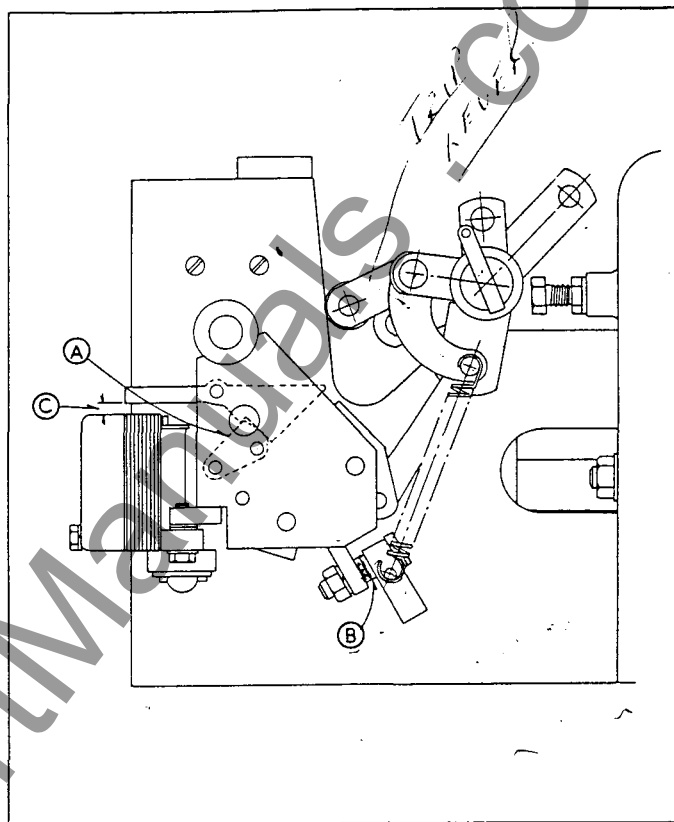

FIGURE 24
7. Fig. 24-A - Latch rotates and permits toggle to collapse when armature is depressed.
9. Varying number of spacers will adjust position of latch-roller to closing lever. Fig. 24-B.
14. 3/8" or enough gap to insure tripping. Fig. 24-C.